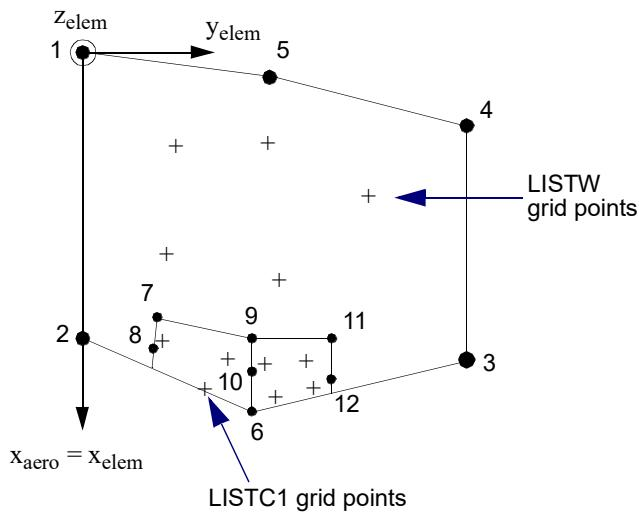

Figure 9-7 CAERO3 Element Configuration
2. The (x,y) pairs on LISTW, LISTC1 and LISTC2 AEFACT entries are in the aero element coordinate system (see Figure 9-7). The (x,y) pairs define a set of aerodynamic grid points that are independent of Mach number and are selected by the user to be representative of the planform and motions of interest. The (x,y) pairs must be sufficient in number and distribution such that: the surface spline provides an accurate interpolation between them and the Mach Box centers that are variously located on the planform as a function of Mach number (a complete description of the Mach Box Method is given in the MSC Nastran Aeroelastic Analysis User's Guide).